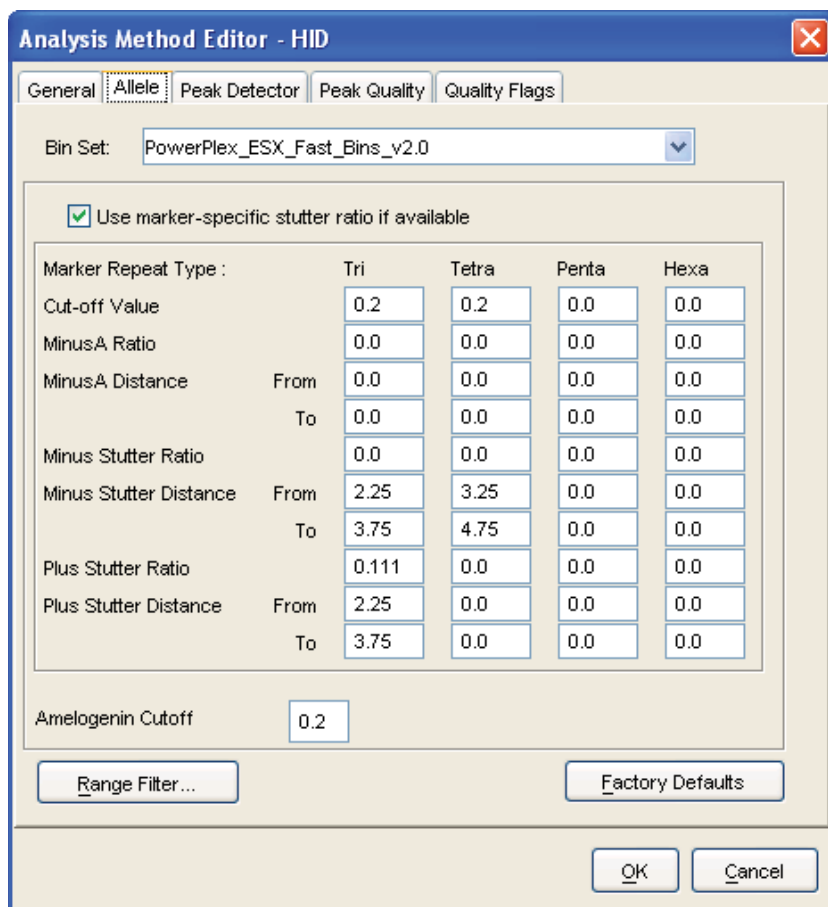

Figure 20. The GeneMapper® ID 'Allele' tab with settings for using a 20% peak filter.
6. Select the 'Allele' tab (Figure 20).
8. Ensure that the "Use marker-specific stutter ratio if available" box is checked and the appropriate global filter is applied to this analysis method. Doing this will assign locus-specific stutter filters and distances from the imported stutter file. For example, for a 20% filter enter "0.20" for the Amelogenin Cutoff and Global Cutoff Value for Tri and Tetra repeats (Figure 20).
9. Enter the values shown in Figure 20 for proper filtering of peaks when using the PowerPlex® ESX 16 Fast System. For an explanation of the proper usage and effect of these settings, refer to the Applied Biosystems user bulletin titled "Installation Procedures and New Features for GeneMapper ID Software 3.2".